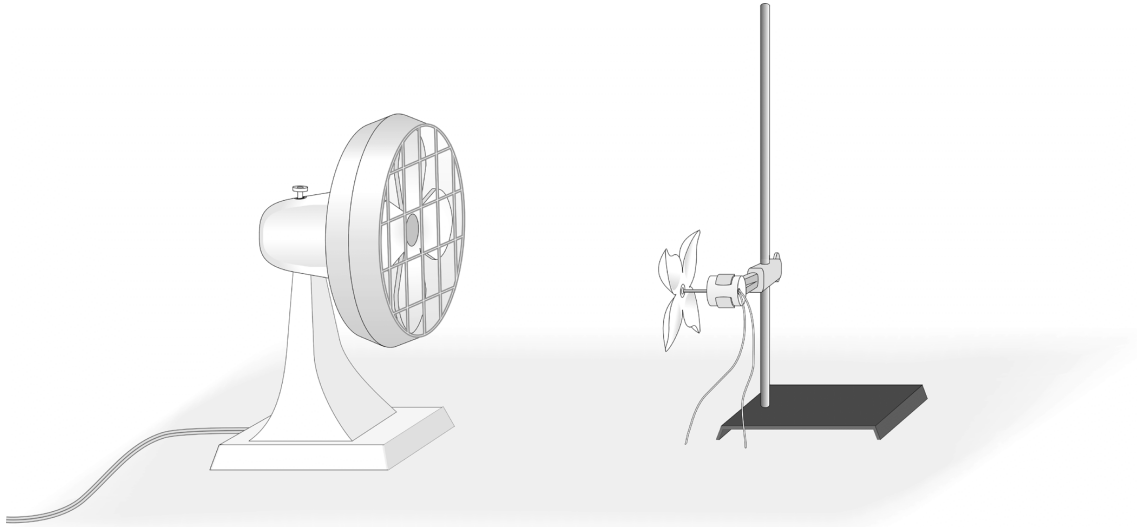

Figure 1
2. Put the propeller shaft adapter on the shaft of the motor. Insert the propeller shaft adapter into the end of the straw. You may wish to use a plastic tubing clamp to secure the straw to the shaft. Secure the motor to the ring stand using a utility clamp as shown in Figure 1.